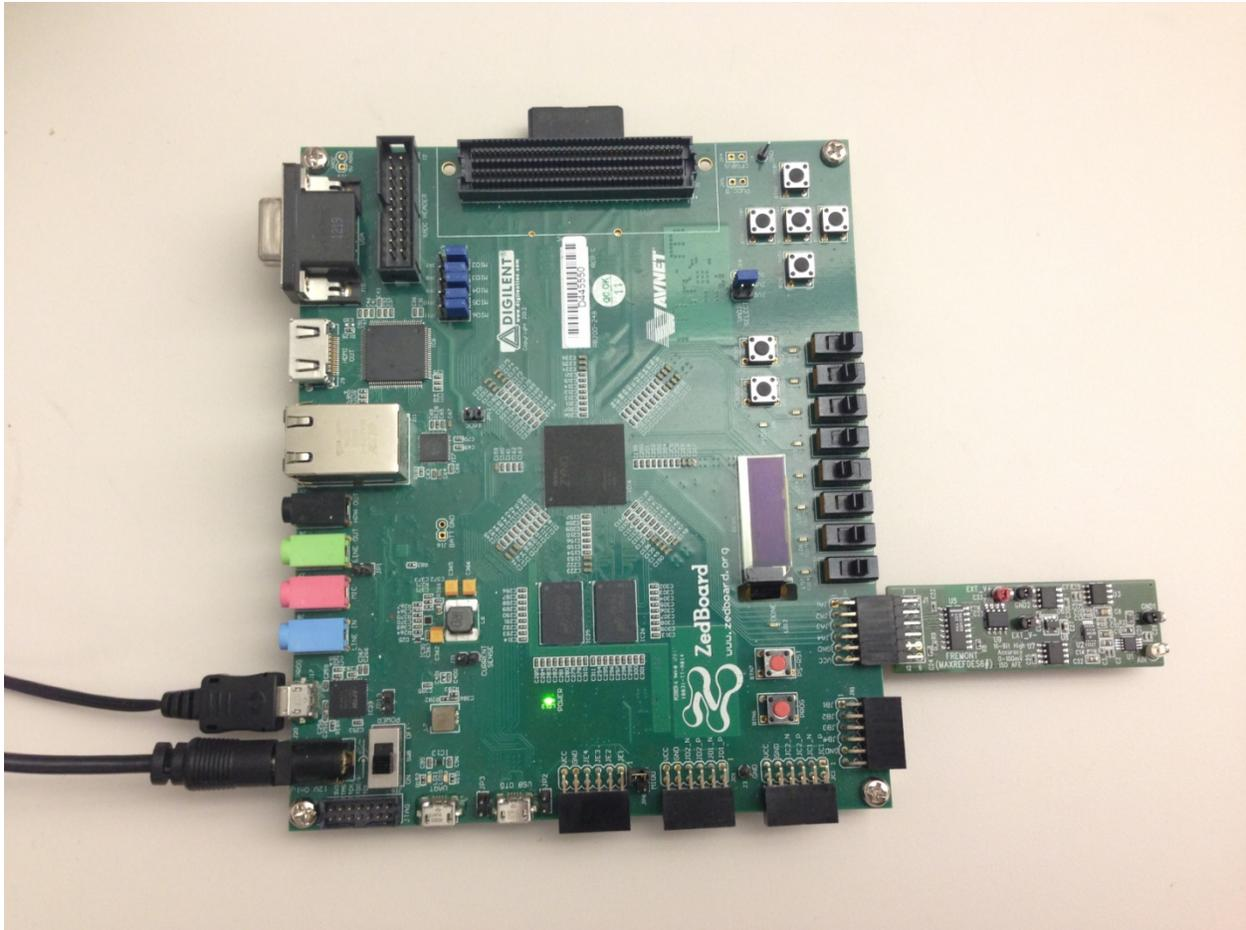
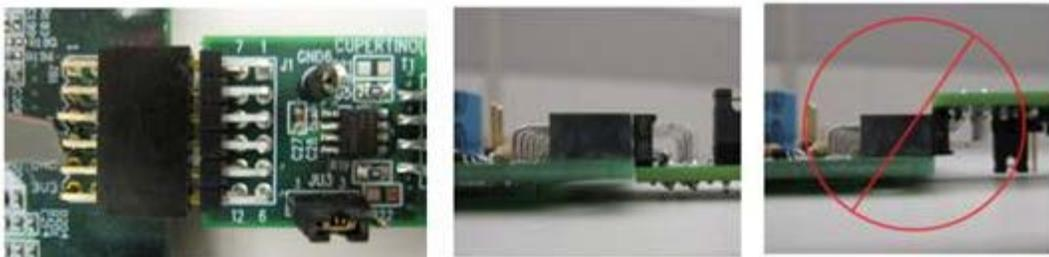

Figure 1. Fremont Board Connected to ZedBoard Kit
Figure 2. Pmod™ Connector Alignment
- 1) Connect the Fremont board to the JA1 port of a ZedBoard as shown in Figure 1. Ensure the connector is aligned as shown in Figure 2.
1. Connect the Fremont board to the JA1 port of a ZedBoard as shown in Figure 1.